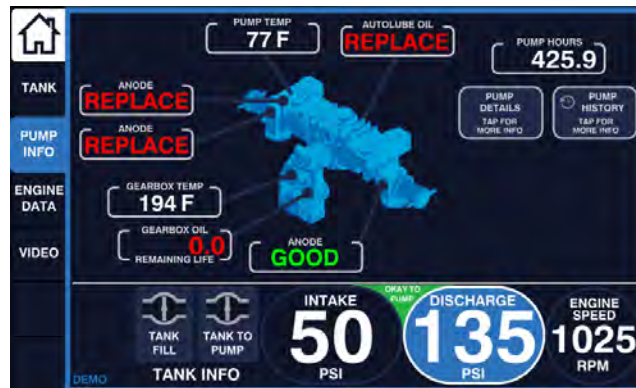
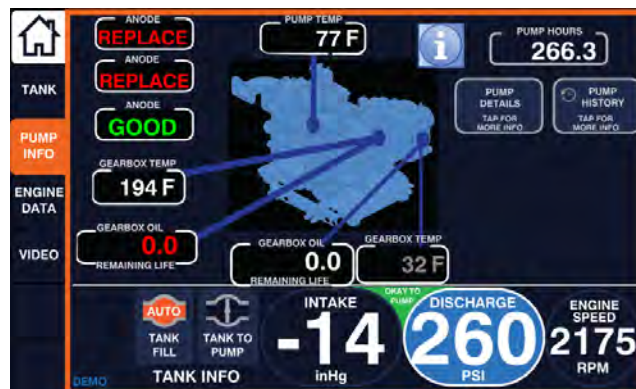

Figure 30. SAM Pump Controller Pump Info Screen (Single Gearbox)
Figure 31. SAM Pump Controller Pump Info Screen (Dual Gearboxes)
- Verify GEARBOX OIL LIFE REMAINING resets to 200 hours. (See Figure 30.)
- Verify GEARBOX OIL LIFE REMAINING resets to 200 hours. (See Figure 31.)
See Figure 30 for typical single gearbox pump models or Figure 31 for pumps with a second (auxiliary) gearbox.